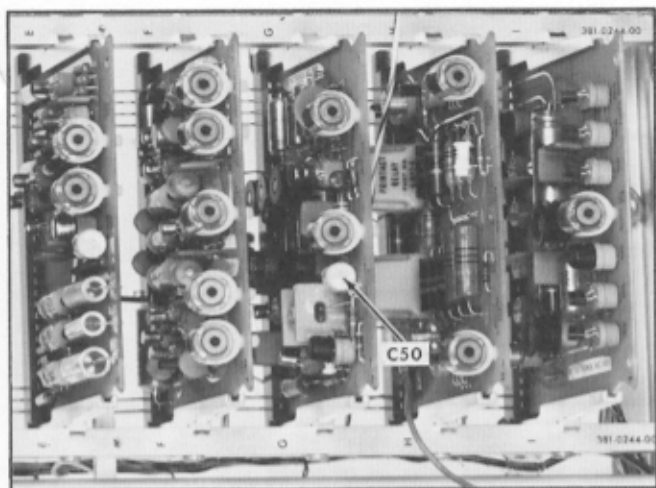

Fig. 7-25. Location of C50 on the Output Amplifier (Series G) card for adjusting + pulse overshoot.
m. Adjust — C50 on the Type R116 Output Amplifier card (see Fig. 7-25) if necessary to obtain the fastest rise possible and the squarest front corner on the pulse without causing overshoot at the front corner or aberrations on the pulse top.